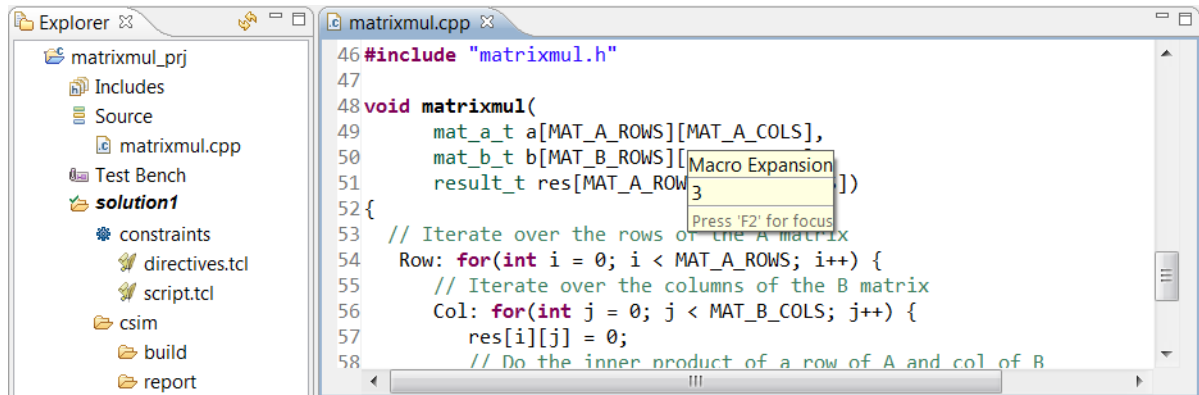

Figure 7-4: Source Code for the Matrix Multiplier
5. Expand the **Sources** folder in the **Explorer** pane and double-click `matrixmul.cpp` to view the source code (Figure 7-4).
Scroll down the file to see that the source code has two input arrays, `a` and `b`, and output array `res`. Hold the mouse over the macros (as shown in Figure 7-4) to see that each is three-by-three for a total of nine elements.